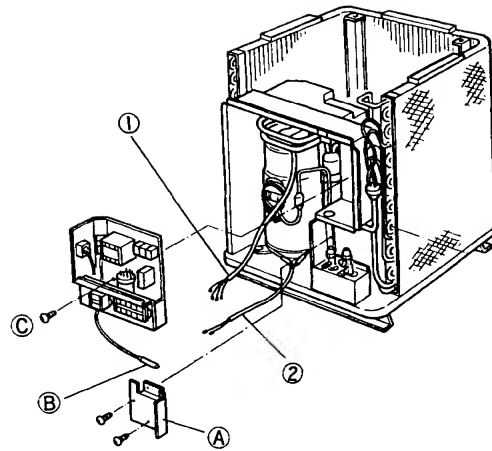

Fig. 11
- (2) Remove the cover plate (A) and the sensor (B).
- (3) The electrical component box can now be removed by unscrewing one screw (C). Fig. 11.